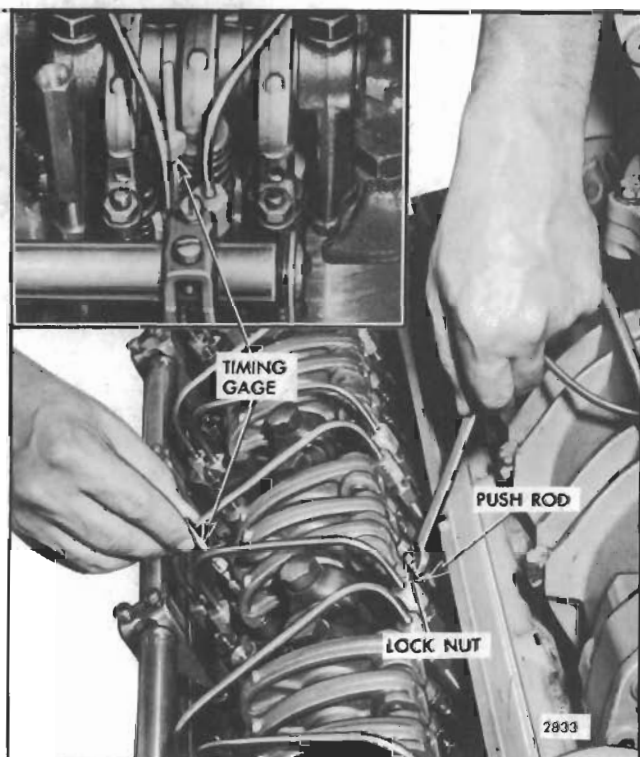

Fig. 1 - Timing Fuel Injector
3. Place the small end of the injector timing gage (refer to Table 1 or Section 14 for the correct timing gage) in the hole provided in the top of the injector body with the flat of the gage toward the injector follower (Fig. 1).